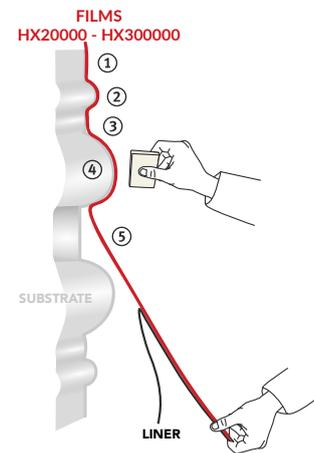

Figure 07
- › Gradually remove the liner while pulling it downward (FIG. 07)
- › Start by applying the hollow ①, then the peak ② and finally the hollow ③.
- › Continue onto the next undulation ④, then keep going ⑤ until completion of the application.